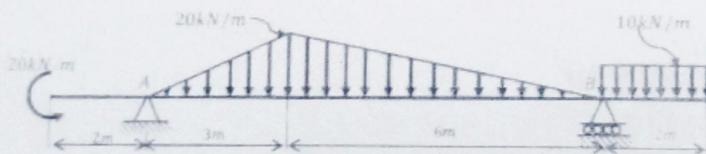

Fig 2.59
- 3) Find reactions for beam loaded & supported as shown in fig 2.59. (Ans: 50kN, 60kN)